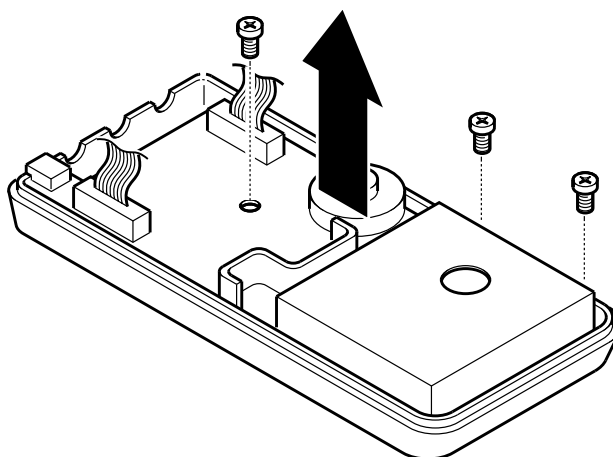

Figure 20: handsfree C removal
3. Figure 20 Remove the handsfree C 3 screws